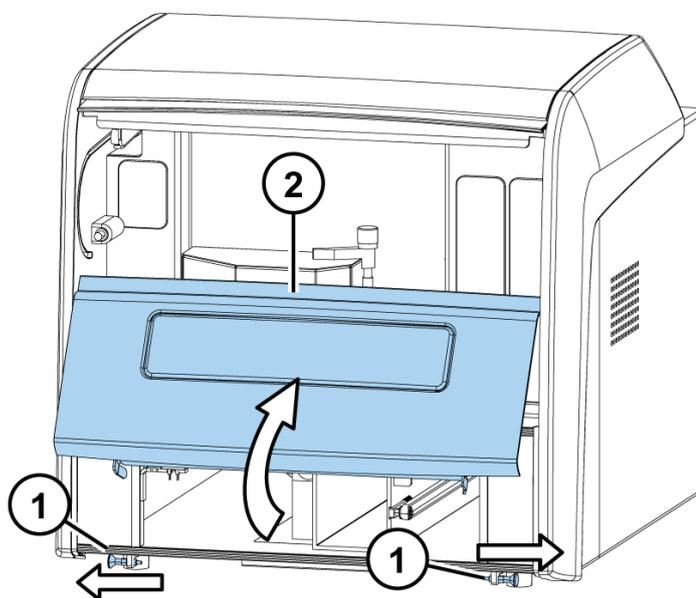

Figure 5–45 Front cover removed
3. If you suspect that liquids have entered the measurement chamber (Figure 5–46), remove the front cover by first pulling the two bolts (1), one on each side at the bottom, sideways, then turning the bottom of the cover (2) 30° and finally by lifting it off according to Figure 5–45.
- If you have spilled infectious agents into the measurement chamber (Figure 5–46), decontaminate according to “Sending the instrument to service” on page 83. Otherwise, clean the measurement chamber surface using a soft cloth or tissue paper soaked in a mild detergent solution, soap solution or 70% ethanol.